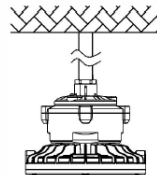
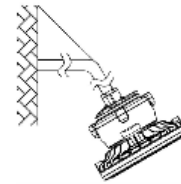
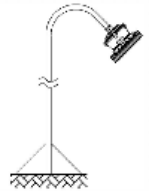

Fig. 10
Fig. 11
Fig. 12
5. Adjust the fixture in the required position (Fig. 10, Fig. 11, Fig. 12)